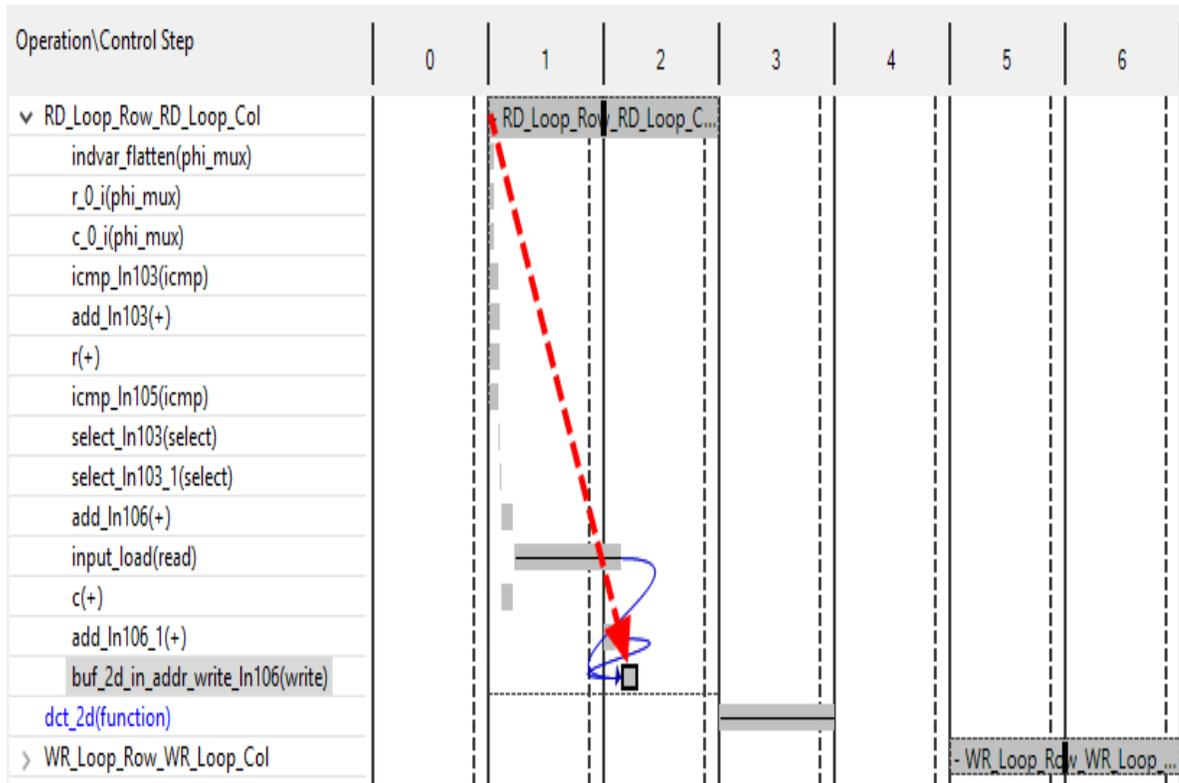

Figure 6-21: Analysis of DCT RD\_Loop\_Row
9. In the **Performance** view, expand the first loop in the design as shown in Figure 6-21, `RD_Loop_Row_RD_Loop_Col` (these loops were flattened and the name is now a concatenation of both loops).
This loop is implemented in two states. The red arrow in Figure 6-21 shows the path from the start of the loop to the end of the loop: the arrow is almost vertical (everything happens in two clock cycles) and this loop is well implemented in terms of latency.